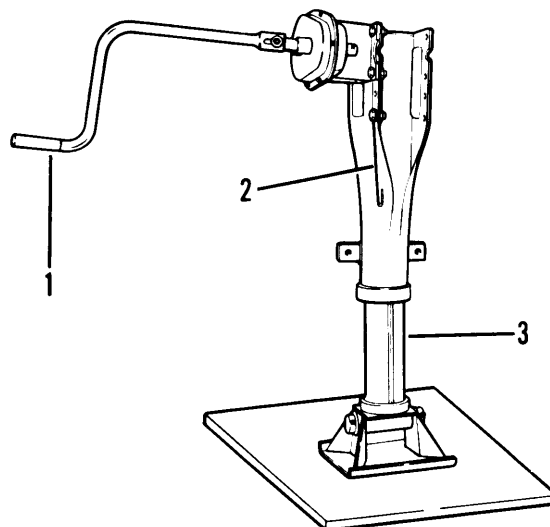

Figure 2-17. Landing Gear
- (1) Unhook crank (1, fig. 2-17) from crank holder (2).
- (2) Raise crank (1).